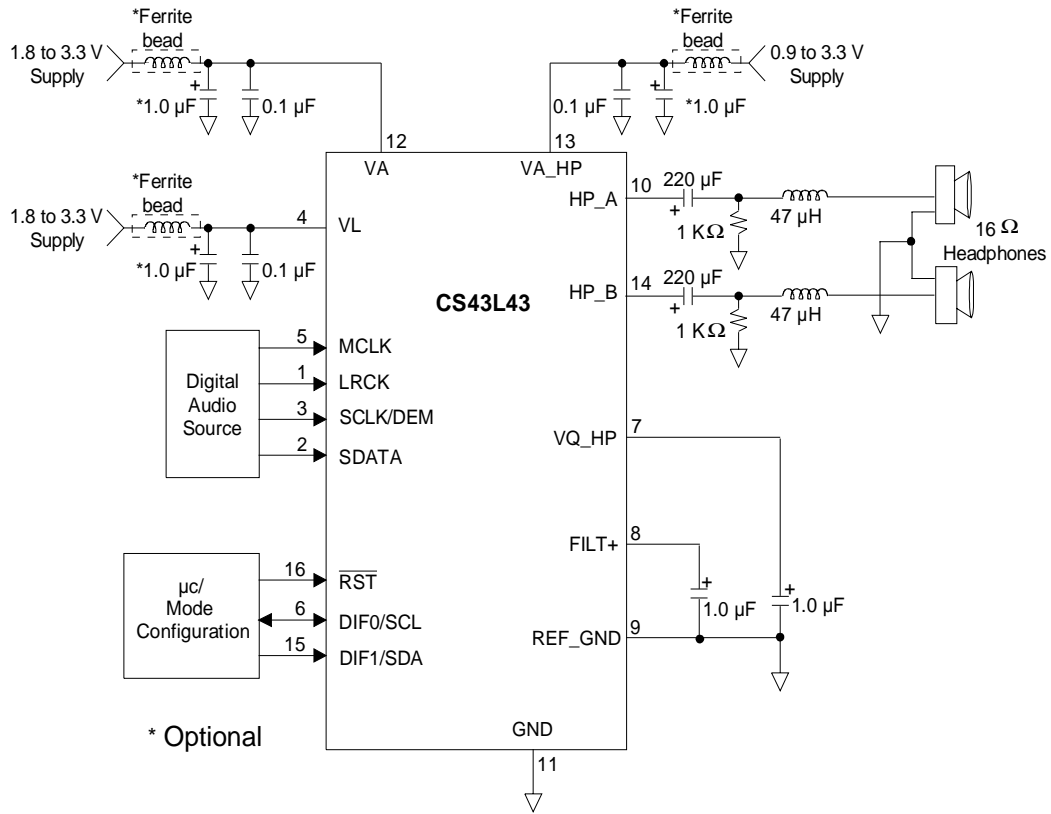

Figure 5. Typical Connection Diagram
8. Valid with the recommended capacitor values on FILT+ and VQ_HP as shown in Figure 5. Increasing the capacitance will also increase the PSRR. NOTE: Care should be taken when selecting capacitor type, as any leakage current in excess of 1.0 μ A will cause degradation in analog performance.